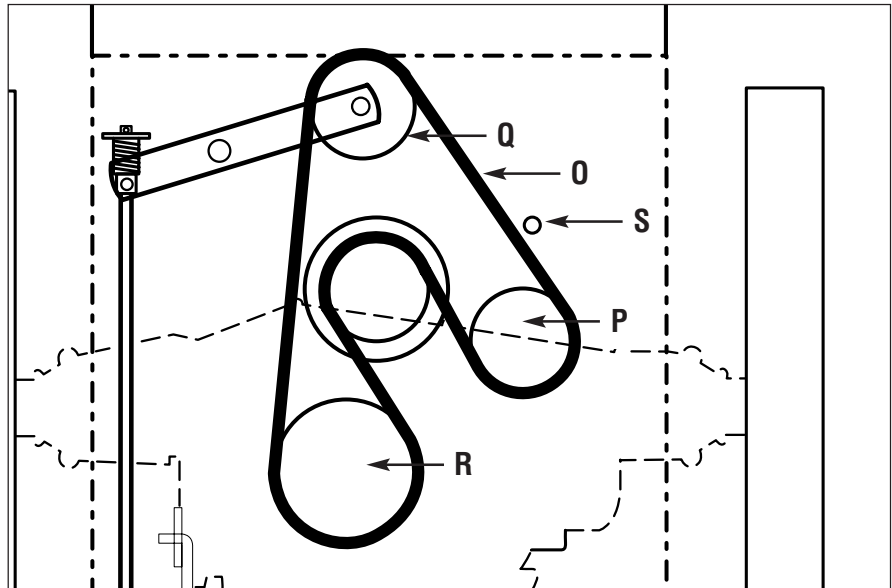

Figure 5-11: Wheel drive belt replacement.
4. Locate wheel drive belt (O, Figure 5-11) and remove it from top sheave of engine sheave, back-sided idlers (P and Q) and transmission sheave (R).
5. Install new belt as shown in Figure 5-11. Belt must be installed "inside out" – "V" side of belt lies against engine sheave only. Flat side of belt lies against transmission sheave (R) and back-sided idlers (P and Q).
6. Make sure belt is inside belt guide (S, Figure 5-11).